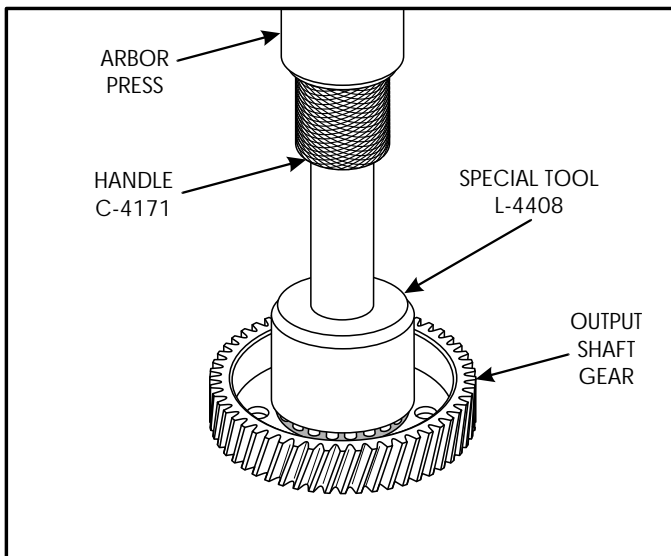

Figure 165
2. Install new bearing cone on output gear, using special tool L-4408 and arbor press, as shown in Figure 165.